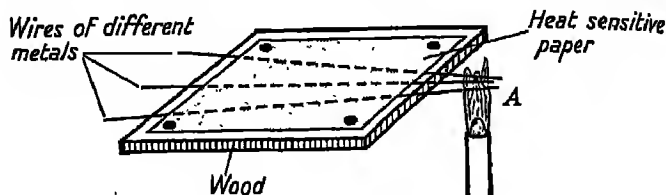

FIG. 240.
**Expt. 289. To show that some metals conduct heat better than others.** Arrange three wires of different metals but of the same length and thickness on a piece of wood (Fig. 240). Pin down over them a sheet of 'heat sensitive paper'. Heat the wires at A with a bunsen flame and note the colour change as the heat is conducted from the flame along the wires. It will be found that the heat travels along some of the wires farther than along others. The experiment illustrates roughly the fact that different metals have different heat conductivities.